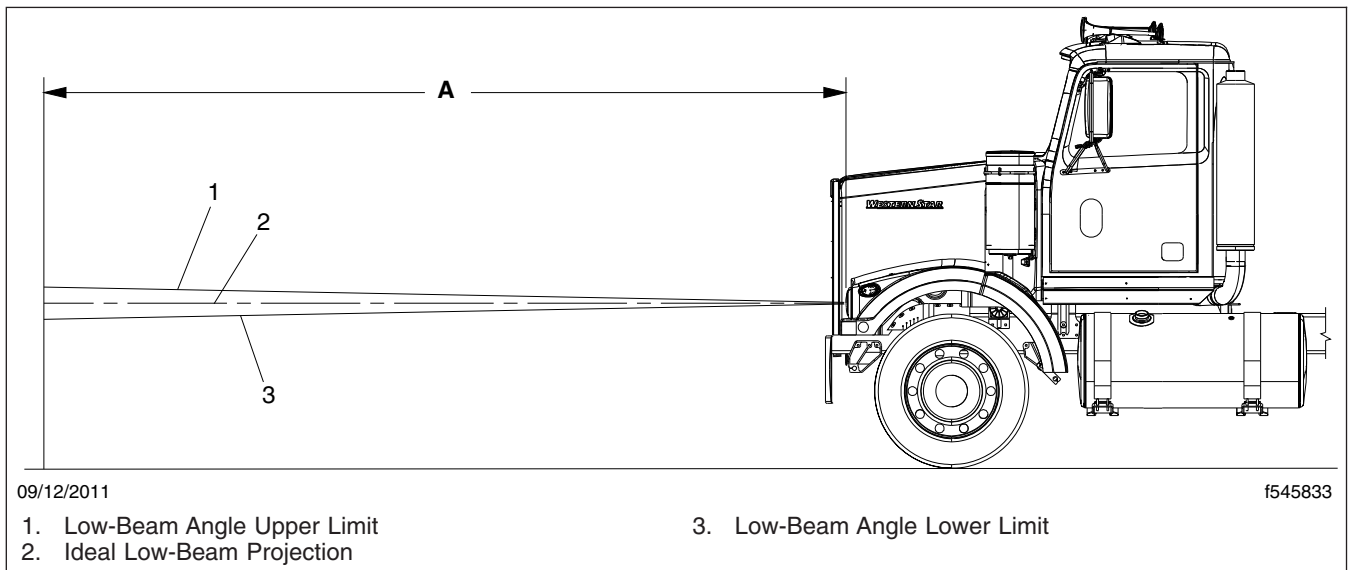

Fig. 19.2, Vertical Low-Beam Headlight Variation Limits
7. Check the vertical adjustment of the low beams. The center of each beam projection should fall on or near the marks made during step 4. See **Fig. 19.2**.